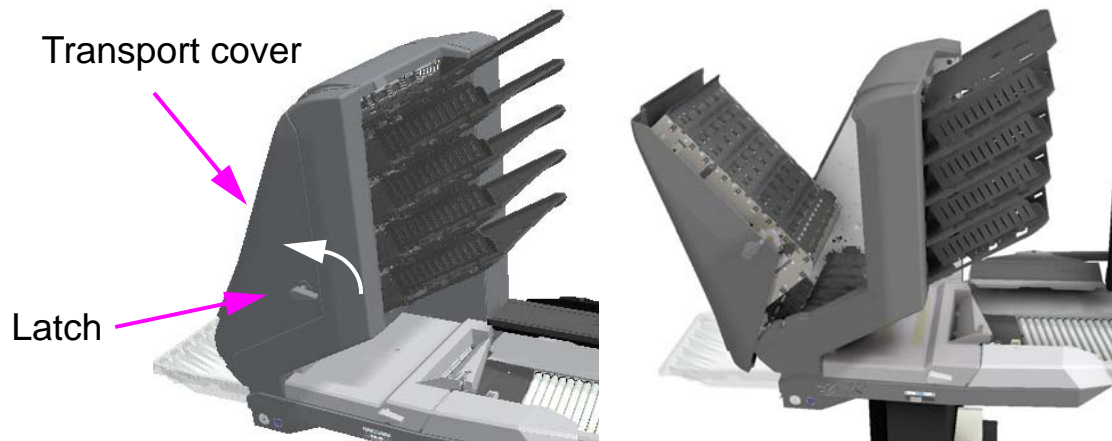

Figure 4-37: Opening the Transport Cover
1. Turn the transport latch counterclockwise and pull the transport cover away from the scanner (Figure 4-37).